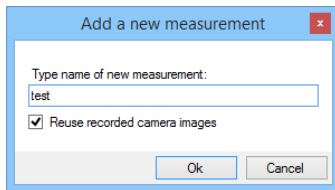

Figure 5: Add a new measurement dialog.
- Create new measurement** – Opens the dialog seen in Figure 5, prompting for a name of a new measurement. Recorded camera images in the open measurement can be reused in the new measurement. Check **Reuse recorded camera images** option for this functionality. In this case, the new measurement contains either the relative paths to reused images (if they are located in the directory of the project or its subdirectory) or their absolute paths. The unchecked option creates an empty measurement. All primitives, calibrations, coordinate systems and other setup is copied to the new measurement in both cases.